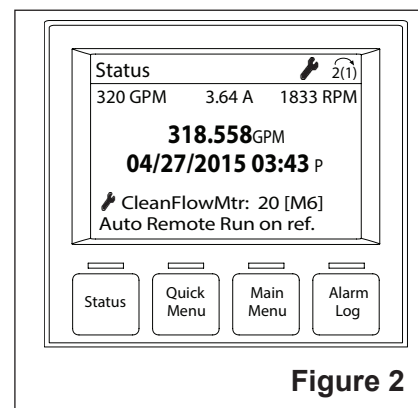

Figure 2
It is recommended that the flow meter be inspected and cleaned once every thirty (30) days. The drive will display a “Flow Meter Error” alert at the end of this thirty day period (see **Figure 2**). Below are instructions for cleaning the flow meter and clearing the drive Flow Meter Error alert.